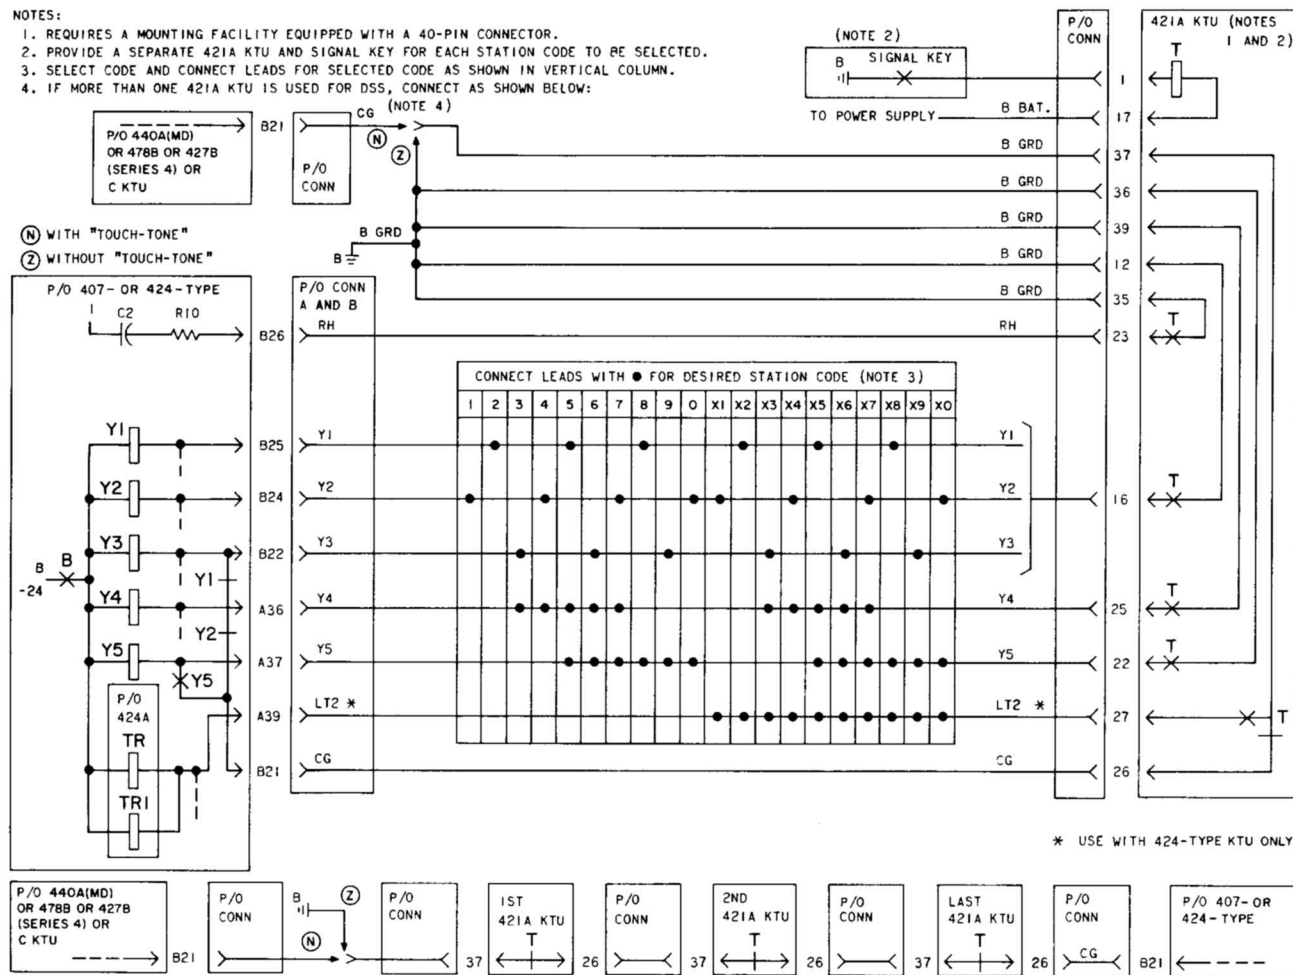

Fig. 8—Condensed Functional Schematic of 421A KTU (Wired for DSS)
- When associated with TOUCH-TONE adapter circuit [426A with 427B or C KTUs, 440A (MD), or 478B KTU] or TOUCH-TONE Selector Circuit (494A KTU), maximum nonrepeated station conductor loop is 500 ohms or 4-dB insertion loss at 1000 Hz, whichever is limiting.
2.05 The 421A KTU (Fig. 8 and 9) is a 4-inch, 40-contact unit that can be used as a DSS circuit or a preset conference circuit. The KTU has the following operating features: